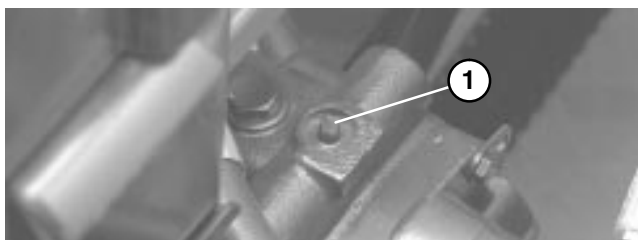

Figure 25
1. By-pass valve is located on top of variable displacement pump (Fig. 25). Rotate the valve 90°, in either direction, to open and allow oil to by-pass internally. Because fluid is by-passed, the machine can be moved – slowly – without damaging the transmission.